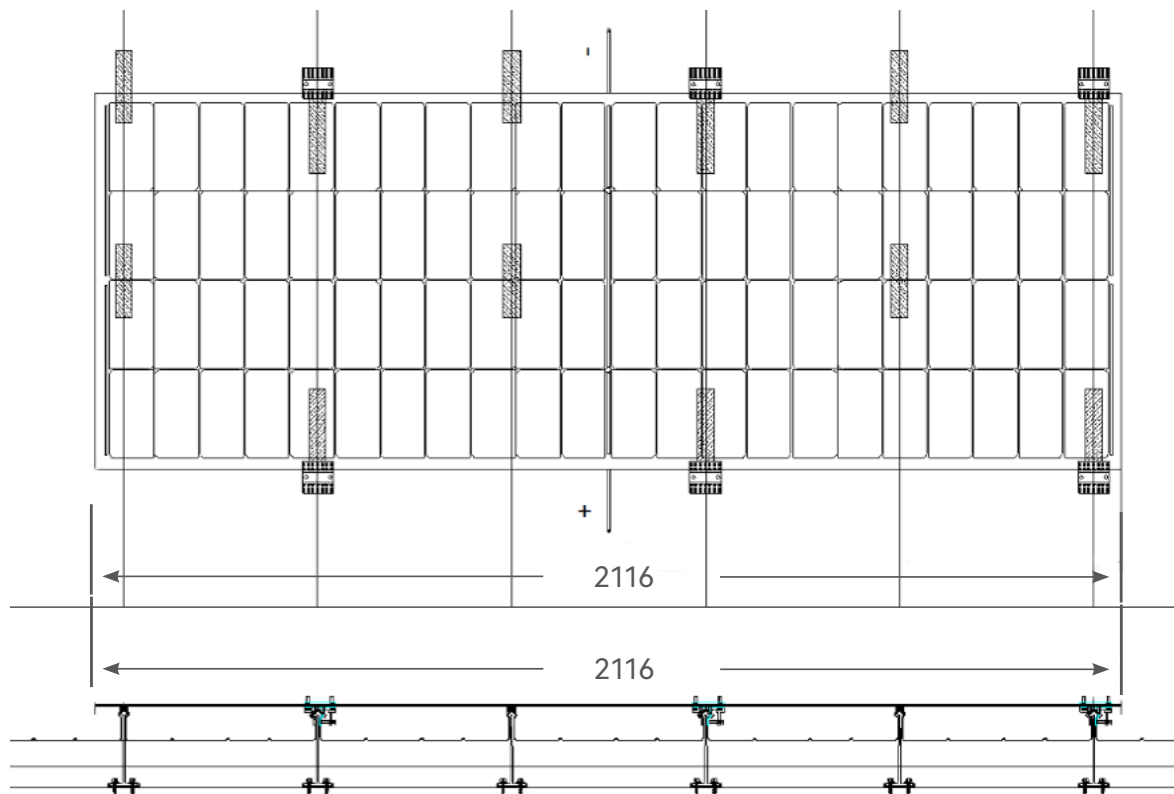

FIGURE 42
④ Installation of the remaining products in the same form as the installation of the angle-chip type colour steel tile roofing;
- The overhang dimension B should be equal at both ends of the product and should not be greater than 200 mm (Figure 42)